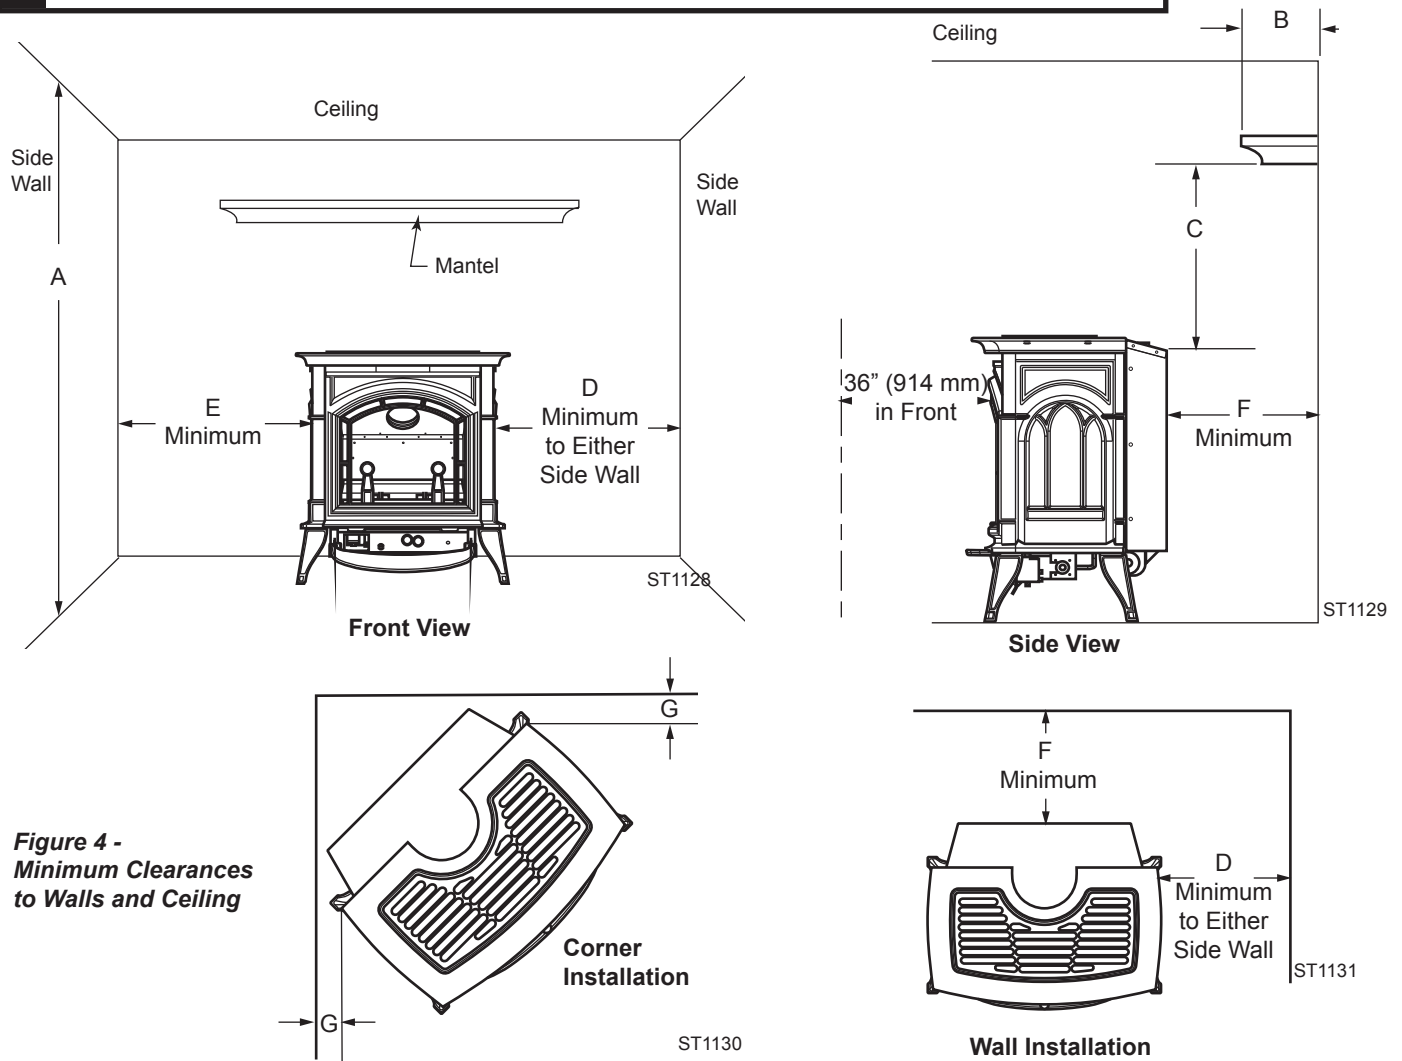

Figure 4 - Minimum Clearances to Walls and Ceiling
- Minimum clearances to combustibles, side-wall, ceiling, woodwork, and windows **must be maintained**. *Page 9, Figure 4*
The dimensions shown in *Figures 4 and 5* are minimum clearances to maintain in installing this heater. Left and right clearances are determined when facing the front of the heater.